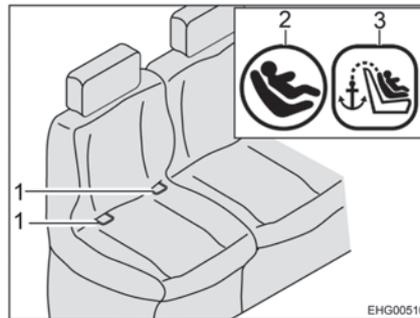
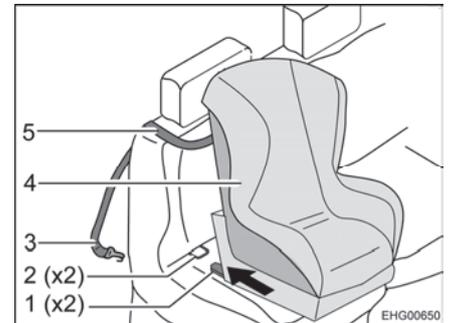

Fig. 12 Seat with ISOFIX
Fig. 13 Fastening with top tether
- Guide the top tether strap (Fig. 13,5) over the back cushion (between the headrest and the seat belt deflector).
- Hook the fixing hook (Fig. 13,3) onto the attachment point on the back of the vehicle seat.
- Have the connectors (Fig. 13,1) snap into the retaining clips (Fig. 12,1 and Fig. 13,2). While doing this, a distinctive click must be heard.
- With a strong jerk, check if the child seat (Fig. 13,4) is firmly connected.